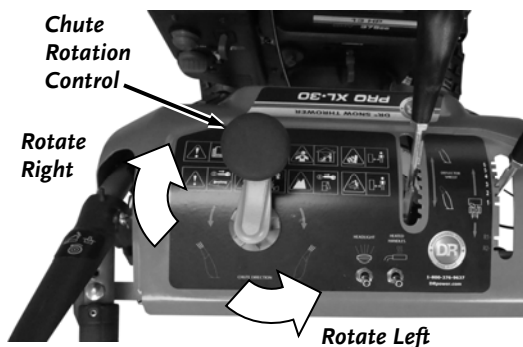

Figure 34
1. Rotate the Chute Rotation Knob until the desired angle is achieved (**Figure 34**). Rotate clockwise to rotate the Chute to the right. Rotate counterclockwise to rotate the Chute to the left.